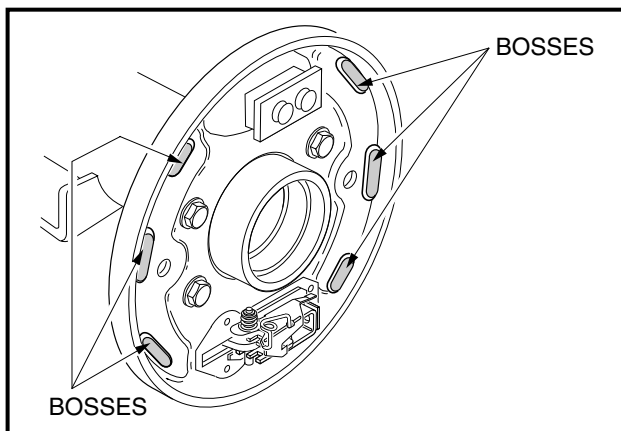

Figure 6-9 Lubricate Raised Bosses
- Use a small brush to carefully apply a light coat of white lithium NLGI #2 grease (Dow Corning BR2-Plus or equivalent) on each of the six raised bosses on brake backing plate (**Figure 6-9, Page 6-6**). See preceding **WARNING**.